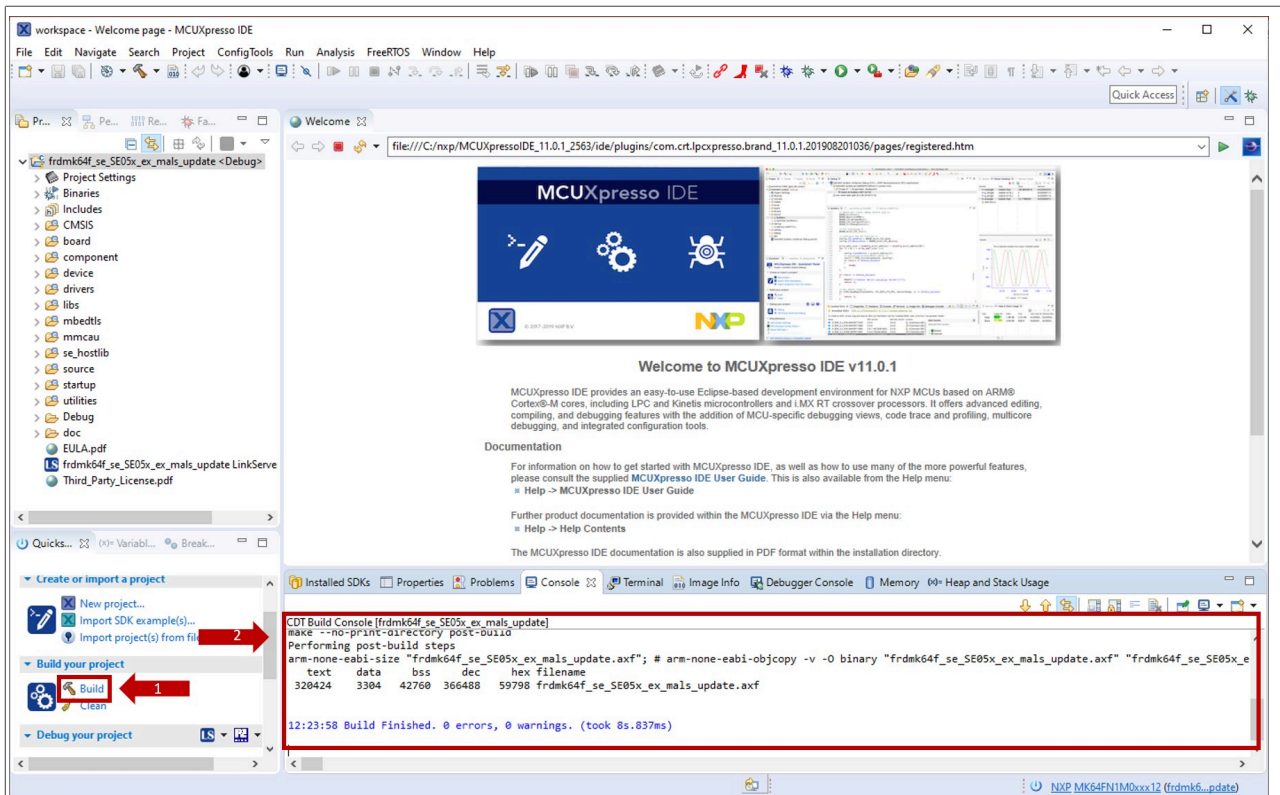

Figure 34. Build projects in MCUXpresso workspace
3. Go to the MCUXpresso Quickstart Panel and click *Build* button as shown in Figure 34. Wait a few seconds and check that the build process has finished successfully in the MCUXpresso console window.